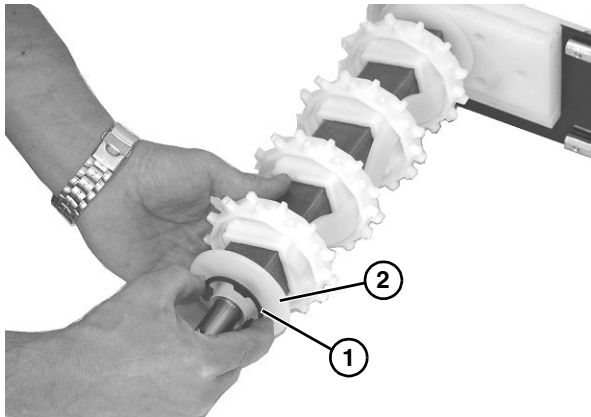

Figure 35
- Remove retaining clip (**Figure 35, item 1**) and flanged puck (**Figure 35, item 2**) from drive spindle.